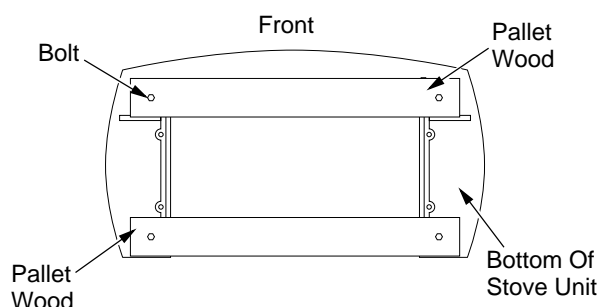

**Figure 6 - Removing Back Panel**
4. Remove back panel from stove (see Figure 6). Use an adjustable wrench or a 10 mm socket. Remove six (6) bolts and washers. Keep bolts and washers to reattach back panel later.